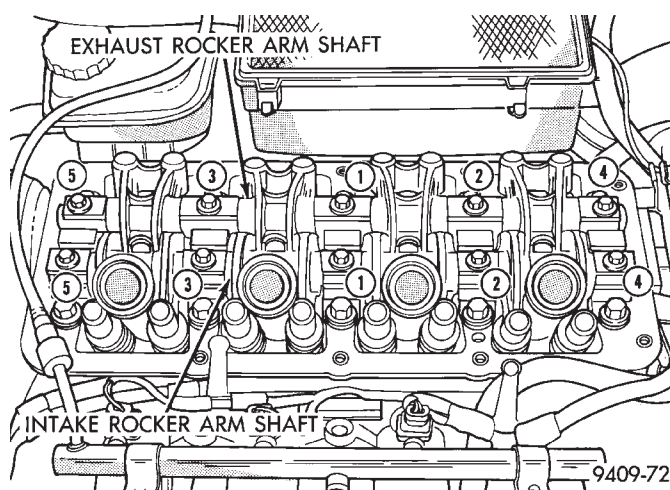

Fig. 26 Rocker Arm Shaft Tightening Sequence
(3) Tighten bolts to 28 N·m (250 in. lbs.) in sequence shown in (Fig. 26).